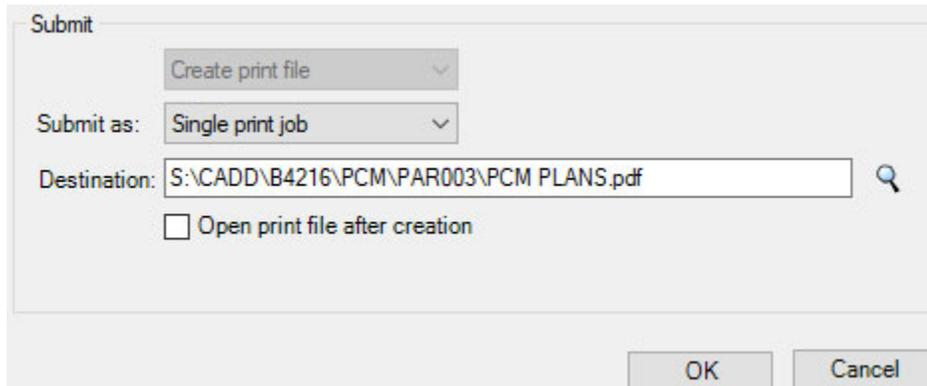

Figure 40 *“Submit”*
Step 17. Change the *“PCM PLANS”.pdf* name in the Destination data field to *PARxxx* (xxx being the parcel number) as the pdf file name before you press OK. See figure 40 below